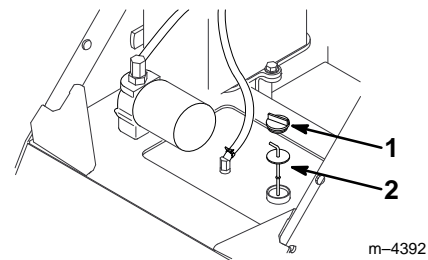

Figure 6
3. Clean the area around the filler neck of the hydraulic tank (Fig. 6).
4. Remove the cap from the filler neck and check the fluid level on the dipstick (Fig. 6).